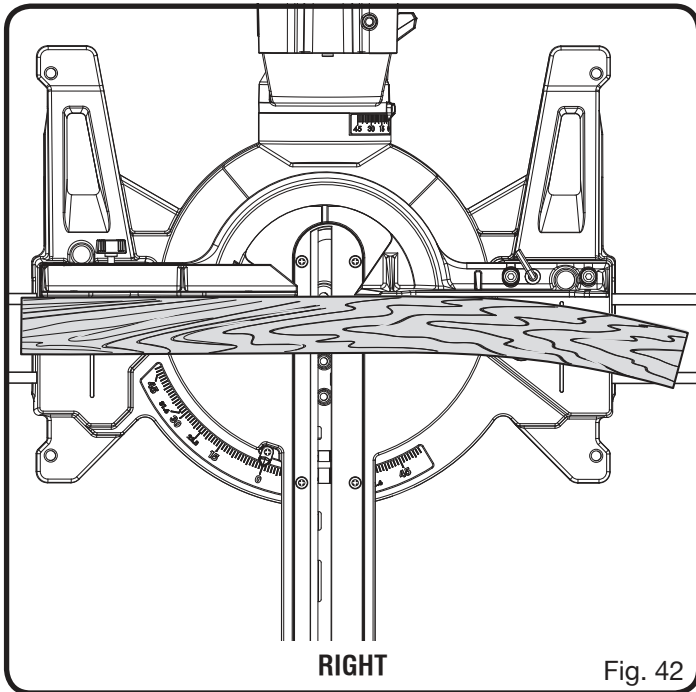

Fig. 42
- Place the workpiece flat on the miter table with one edge securely against the fence. If the board is warped, place the convex side against the fence. If the concave edge of a board is placed against the fence, the board could collapse on the blade at the end of the cut, jamming the blade. See Figures 42 - 43.
See Figures 42 - 43.
When cutting warped material, always make sure it is positioned on the miter table with the convex side against the fence as shown in figure 42.